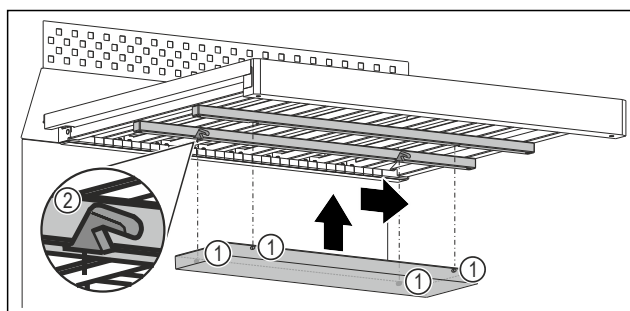

Fig. 121 Example illustration
- Insert each peg Fig. 121 (1) into the corresponding recess Fig. 121 (2) on the strips under the wooden grate.